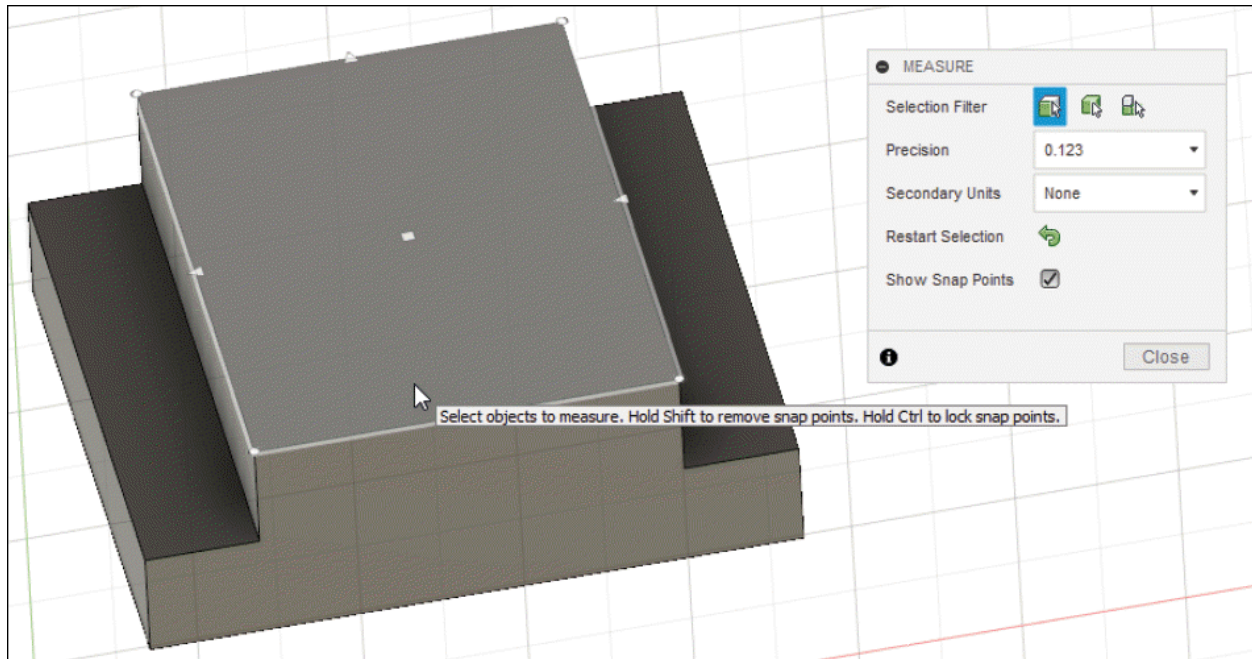

Figure-34. Selection of face for measurement
- In our case, we are selecting **Select Face/Edge/Vertex** button from **Selection Filter** section. Click on the face to measure; refer Figure-34.